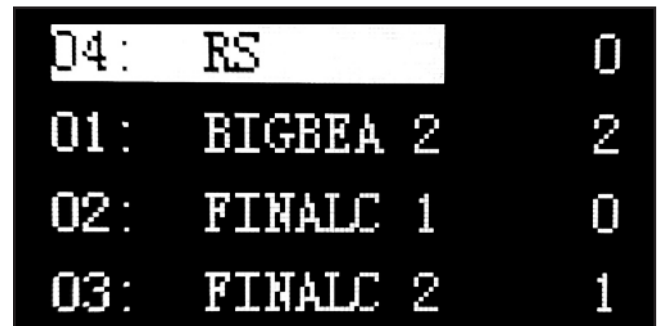

Figure 51. Example of file list screen.
11. Select "Memory files", then press Enter. File list screen displays files saved in machine memory (see **Figure 51**).